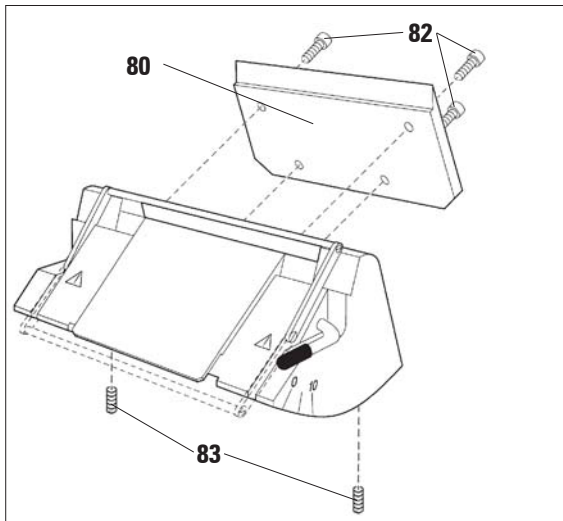

Fig. 29
The rear pressure plate (80) sits on two setscrews (83, Fig. 29) enabling height and parallel adjustment.